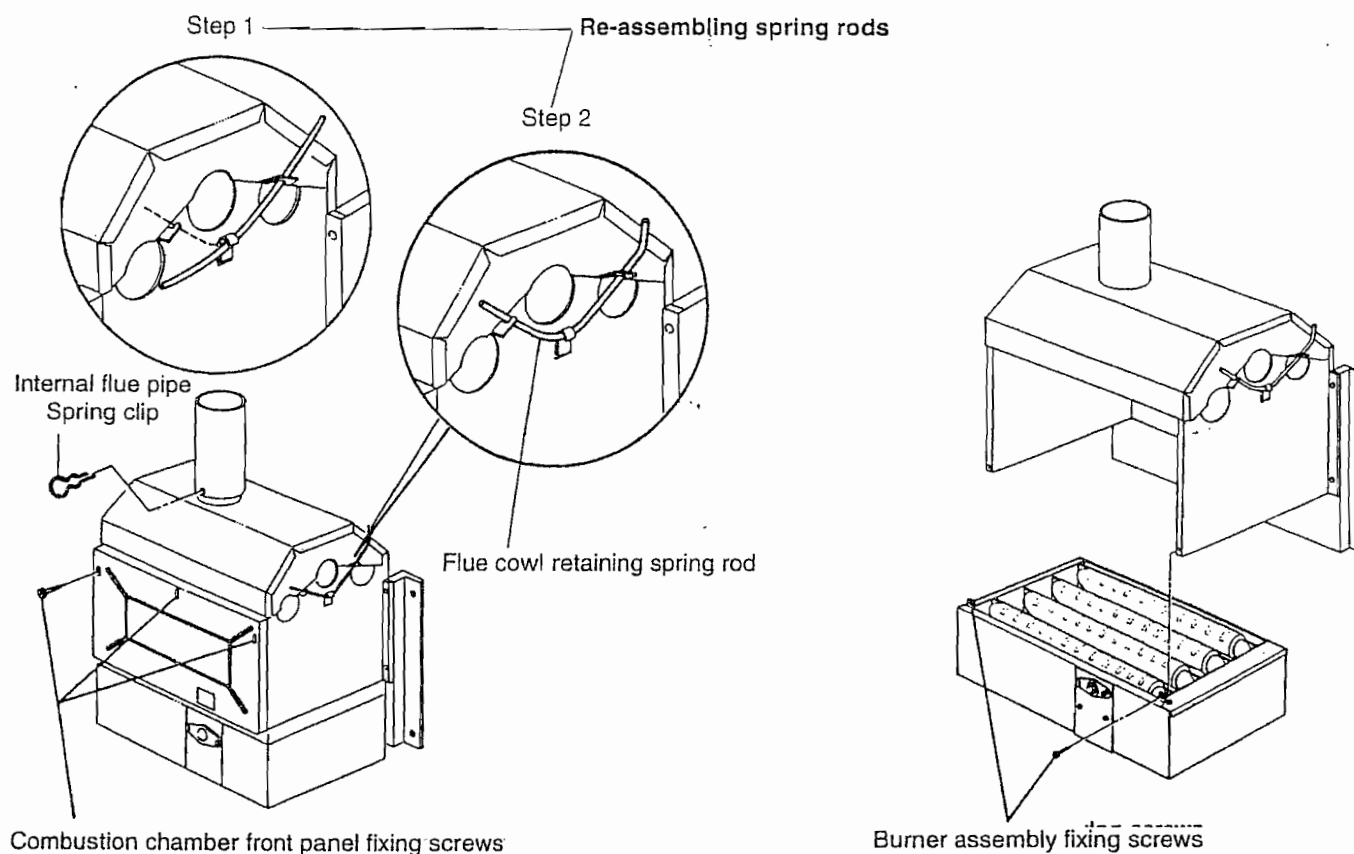

Fig. 49
- d) Remove combustion chamber front panel by unscrewing the two fixing screws (fig. 49).
- e) Unscrew the burner assembly fixing screws (fig. 49) and remove complete burner assembly (take care not to loose sealing cap on gas supply pipe).
- i) Remove flue cowl retaining spring rods by pushing up and outwards (fig. 49).
- j) Remove the spring clip securing the flue cowl to the internal flue pipe and push the flue pipe upwards (fig. 49) and latch it in the flue to keep it out of the way.
- 2.14 Remove the three screws securing the burner air guide plate (fig. 49).
- 2.15 Remove the two fixing screws securing the injector rail (fig. 49) and remove the injector rail complete with burners.